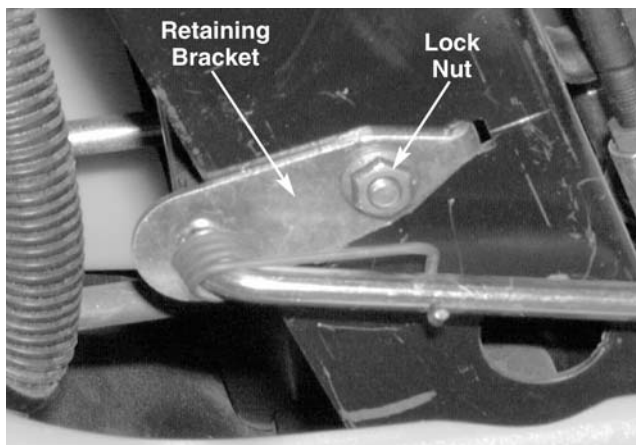

Figure 10-10.
18. Remove the hex flange lock nut and carriage bolt securing the parking brake retaining rod bracket to the support tower assembly using a 7/16 socket. See Figure 10-10.